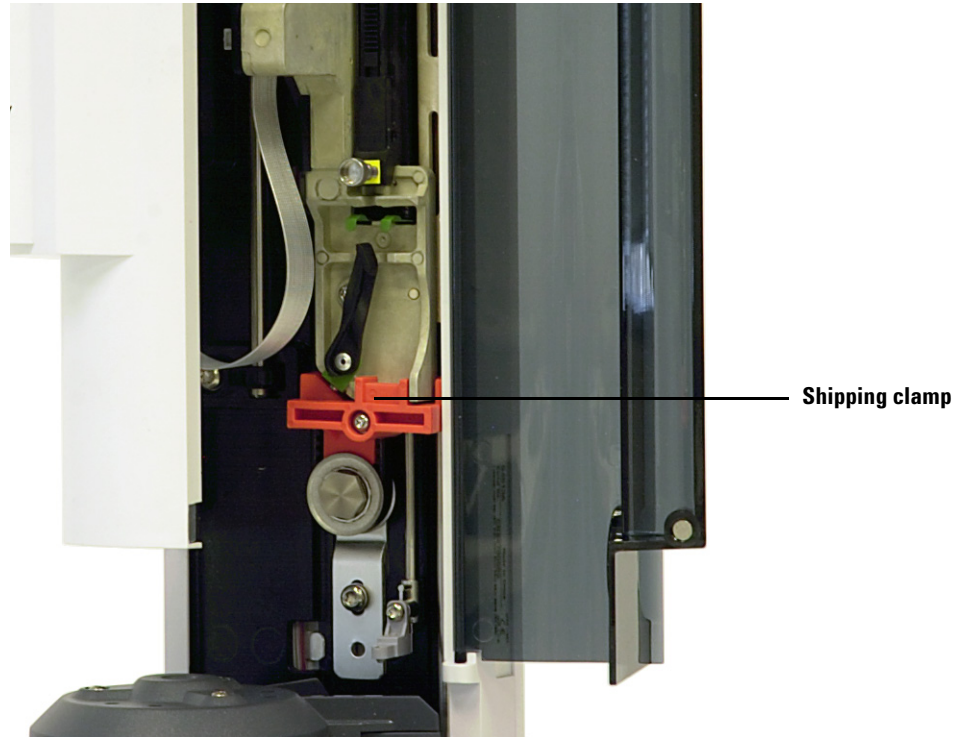
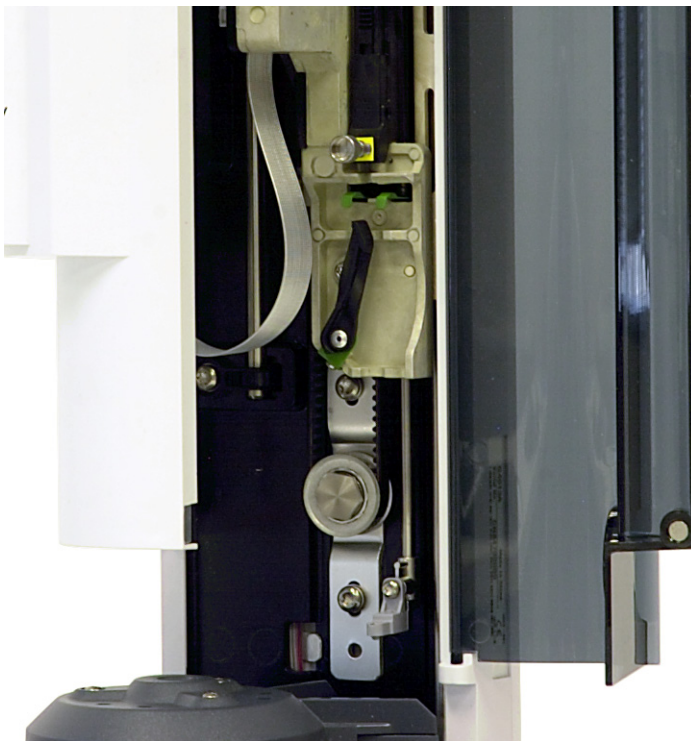

Figure 11 Shipping clamp installed.
Figure 12 Shipping clamp removed.
- 5 Using a T-10 Torx driver, completely loosen the T-10 screw and remove the shipping clamp from the syringe carriage (Figure 11 and Figure 12).